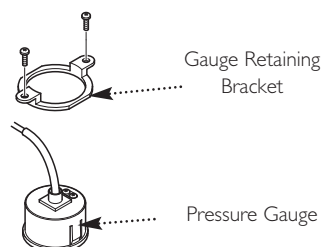

Fig. 61
13.17 Pressure Gauge (Figs. 61 & 62)